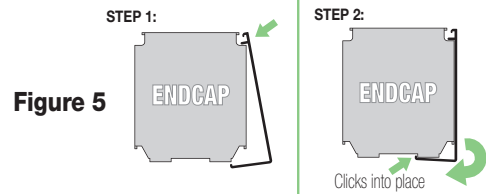

Figure 5
1. Place groove along top of fascia over endcaps, and snap into place (see Fig. 5).